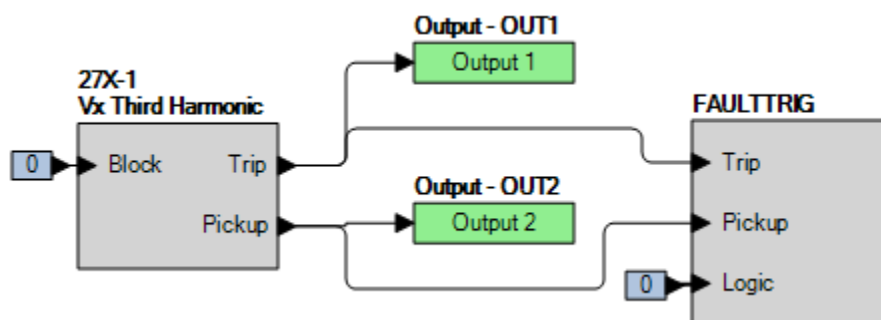

Figure 58-5. BESTlogicPlus Settings (Vx Third Harmonic Mode)
Step 4: Prepare to monitor the 27X-1 function operation. Operation can be verified by monitoring OUT2 (see Figure 58-5).